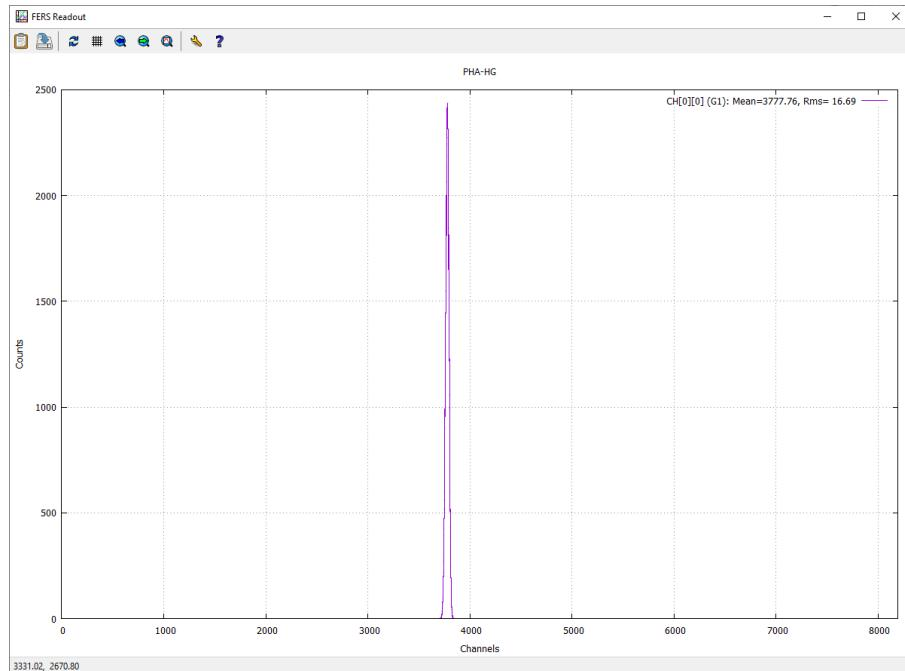

Fig. 10.25: Example of PHA spectrum obtained with the internal test pulser.
- Press the Start button  A plot similar to that in Fig. 10.25 will be visualized for the HG pulse height spectrum.